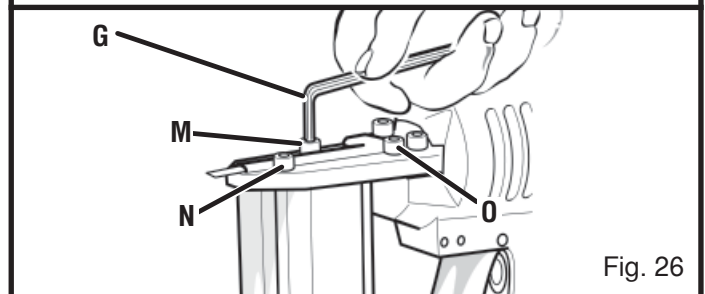

Fig. 26
- 5) Using a suitable Allen wrench (G), remove screws (M) - (N) and (O) located in the top part of the stapler (Fig. 26).